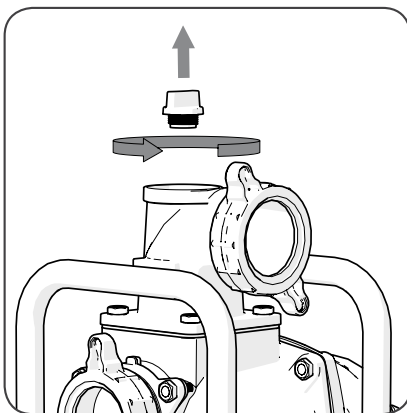

Fig 4
- Remove the filler plug from the top of the pump. **(Fig. 4)**